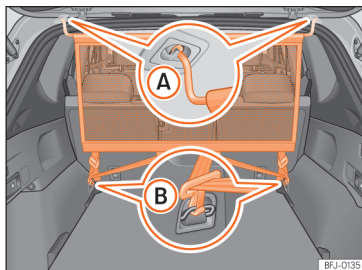

Fig. 133 Net partition fitted.
- Secure the net partition in the left housing of the roof »» Fig. 133 A. Make sure to move the cross rod down beyond the upper position.
- Hook in the net partition on the rear right-hand side roof housing by pressing on the rod »» Fig. 133 A.
- Secure two hooks of the partition net to the fastening rings of the boot »» Fig. 133 B and tighten the straps firmly.
- Release the net hooks from the fastening rings »» Fig. 133 B.
- Unhook the net partition on the right-hand side roof support »» Fig. 133 A by pressing on the rod.